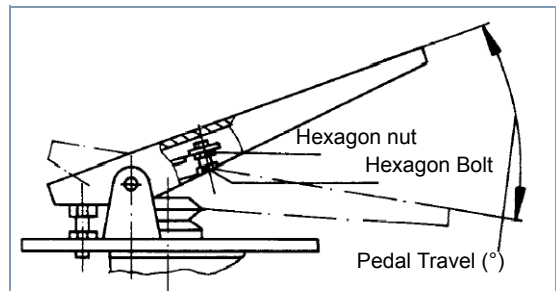

Fig. 5 Pedal
– Release hexagon nut (see fig. 5).
– Screw hexagon bolt up to the pedal and counter it with hexagon nut (M = 4 Nm), see fig. 5.